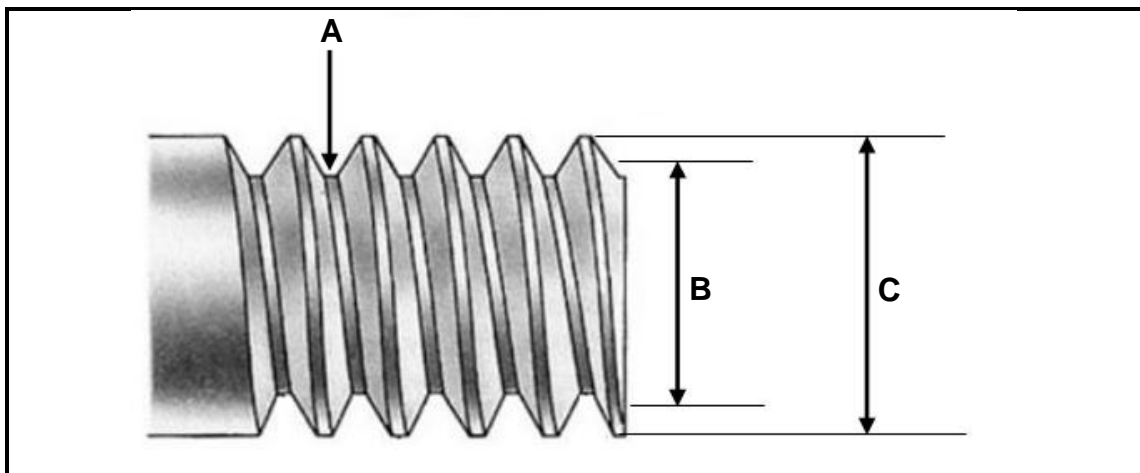

FIGURE 7.4
- 7.4 FIGURE 7.4 below shows a metric screw thread. Answer the questions that follow.